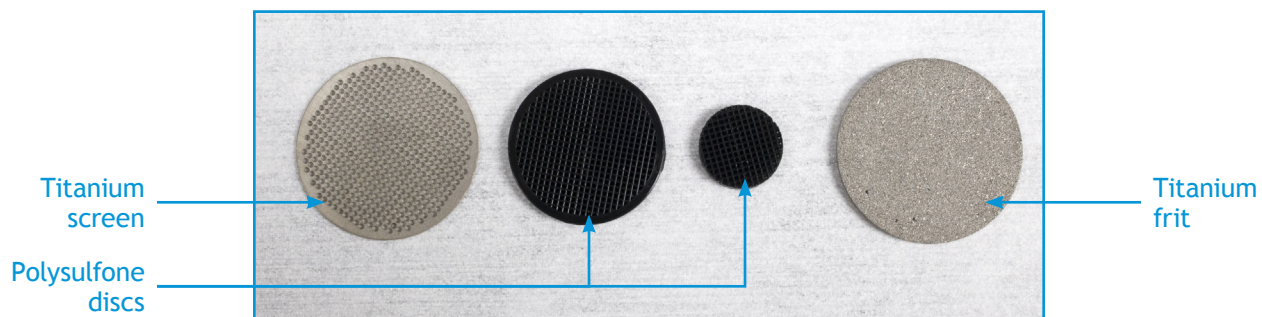

Figure 3-13: Types of puck support
2. Into the puck bottom, place a support. Refer to the following table for the type of support required for a given puck type (Figure 3-13).